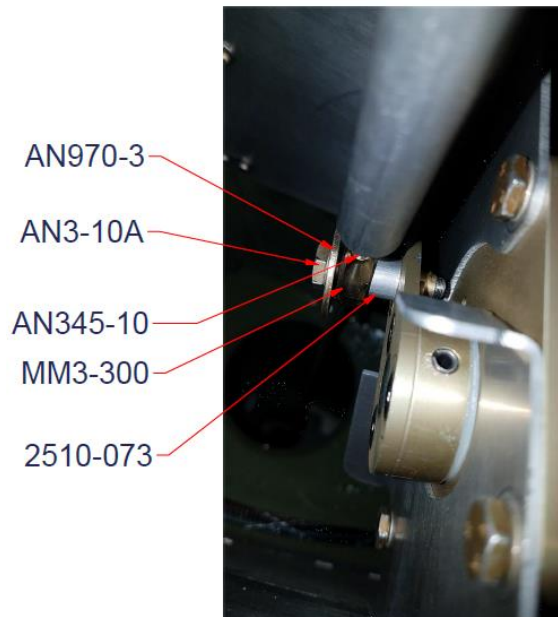
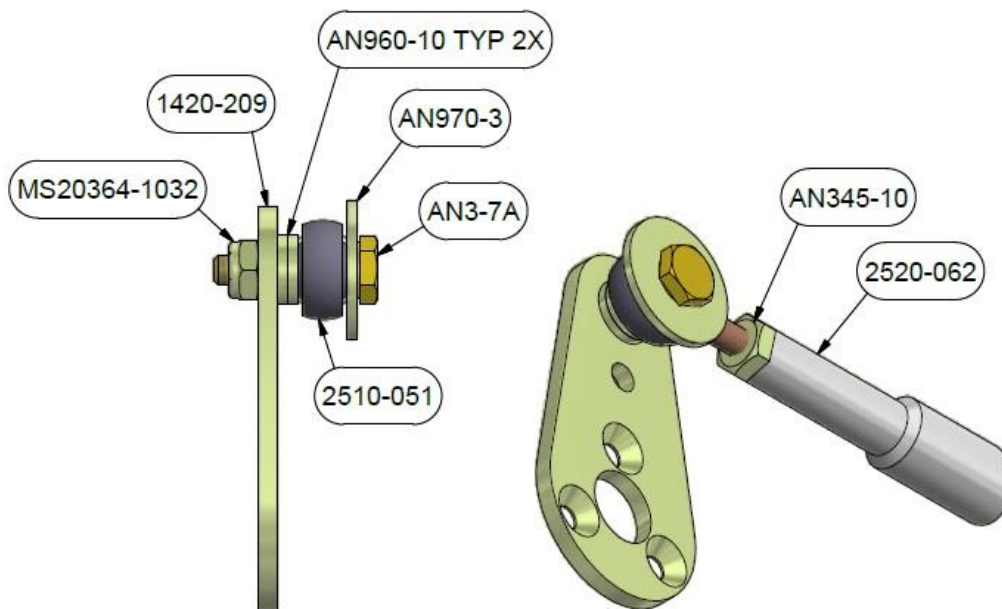

Figure 3-9
Figure 3-10
- 2.33. Attach the pushrod assembly to the roll servo arm as shown in Figure 3-9 for 182E-182N or in Figure 3-10 for 182P-182T, R182 or TR182 and torque to 20-25 in-lb.